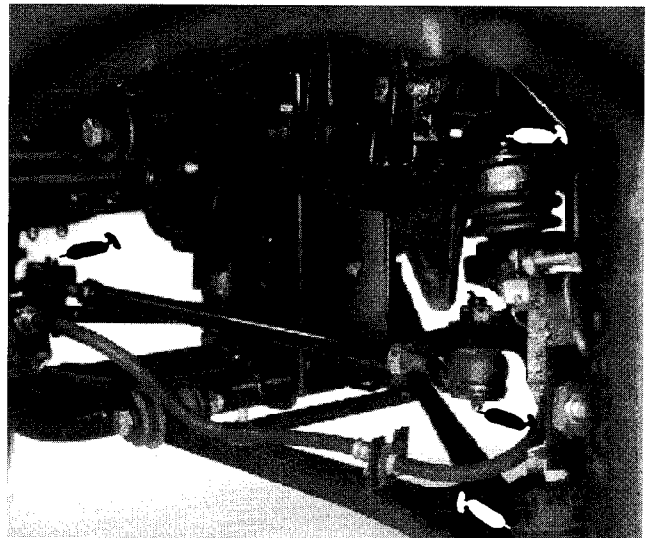
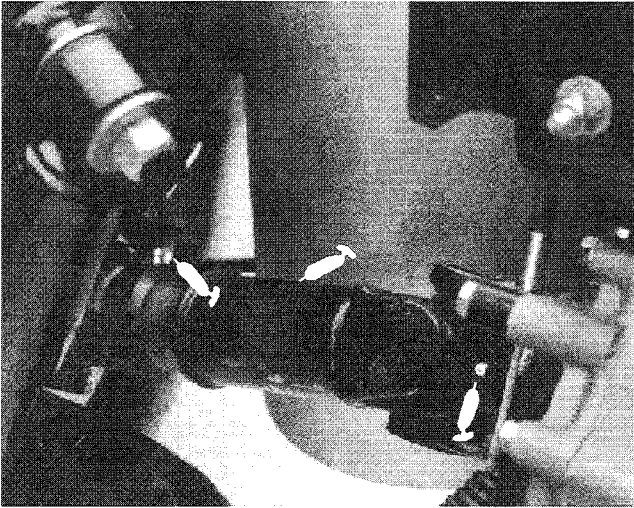
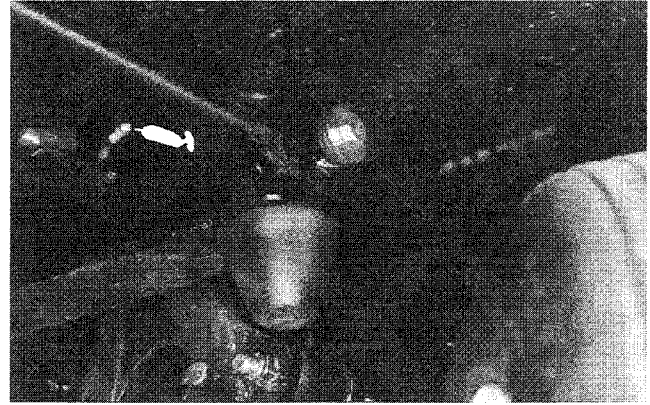
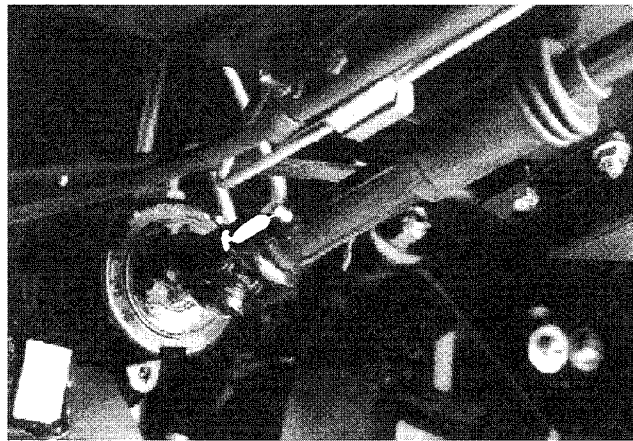

Figure 27
Figure 28
Figure 29
Figure 30
(Fig. 27–30)
The grease fitting locations and quantities are: Tie rod ends (4) (Fig. 27), Front ball joints (4) (Fig. 27), Rear drive shafts (18) (Fig. 28) Front pivot bushings (2) (Fig. 29) and Steering shaft (1) (Fig. 30).